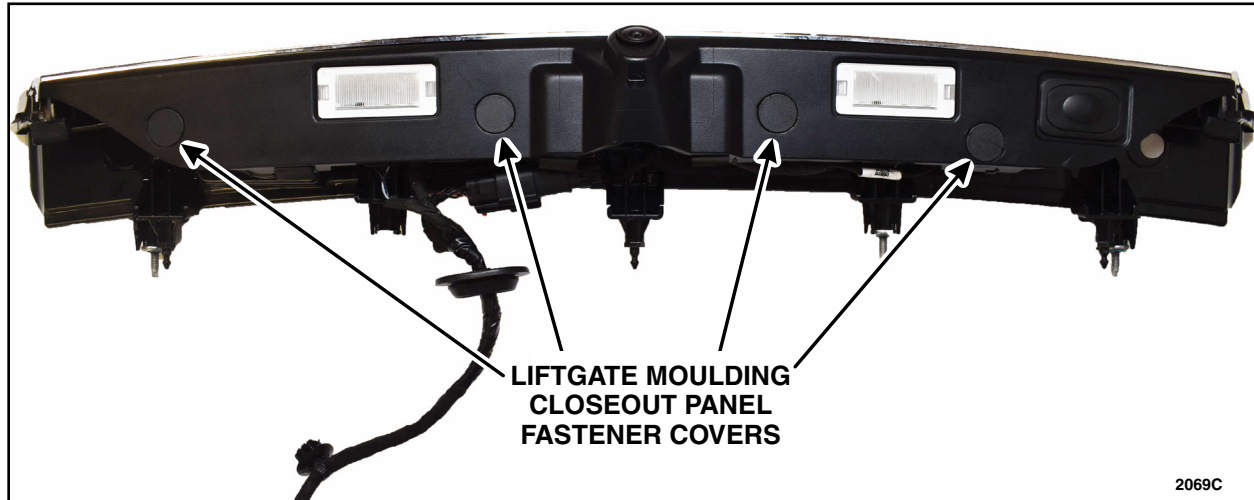

FIGURE 8
3. From the underside of the liftgate moulding, remove the four (4) closeout panel fastener covers. See Figure 8.
12. Install the four (4) closeout panel fastener covers. See Figure 8.